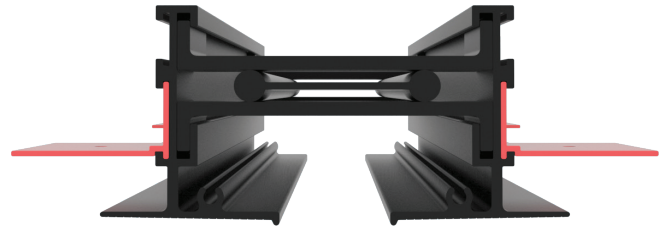

Figure 5 (Step 3B): XG-AFL with F Clip (F22 Clip Shown)
- B. First attach the F Clip to the XG-AFL Linear Slot Diffuser (see Figure 5) with equal spacing between clips.